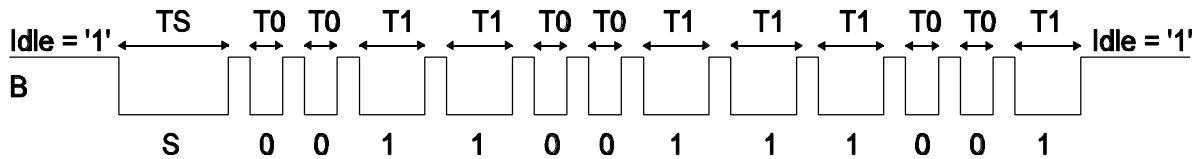

Figure 6.1.5. IR Remote Transmitter Serial Format.
2. Write a program that measures the duration of the pulse representing bit-0 in Figures 6.1.5 and 6.1.6, and then writes the 16-bit duration to the 8-bit output ports KEY_PC and KEY_PA.